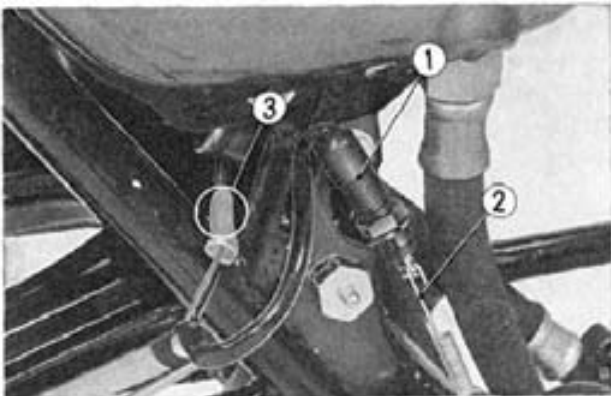

Fig. 16-24 ① Stop light switch
The stoplight switch is a pull type switch operated by the brake pedal. (Fig. 16-24)
1. Adjusting the position of the stoplight switch operation. (Fig. 16-24)